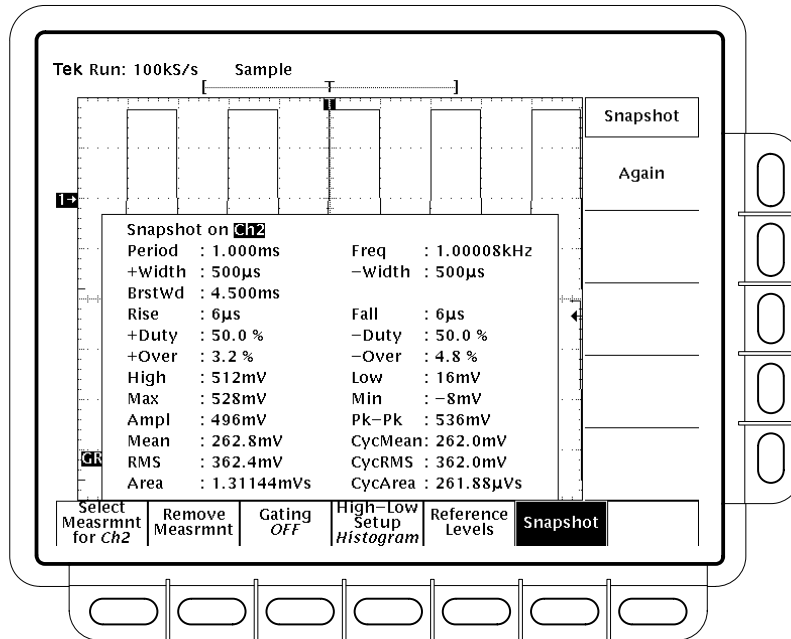

Figure 1-20: Snapshot of Channel 2
1. Press **Snapshot** (main) to pop up a snapshot of all available single waveform measurements. (See Figure 1-20).